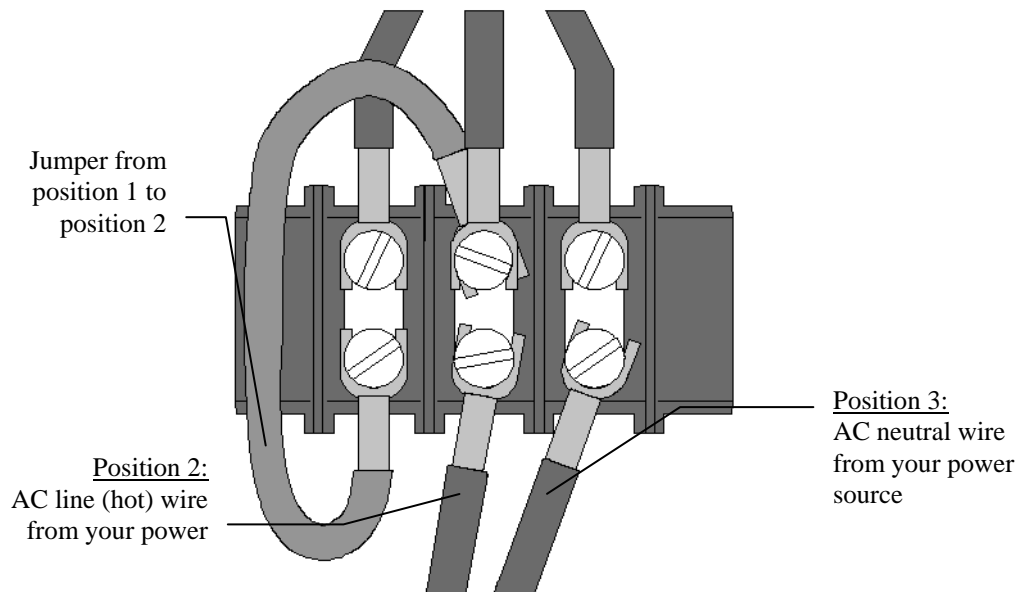

Figure 8 Power Connections
3. Connect the AC line wire to position 2 and AC neutral wire to position 3 of terminal strip T3 on the junction chassis according to figure 8.